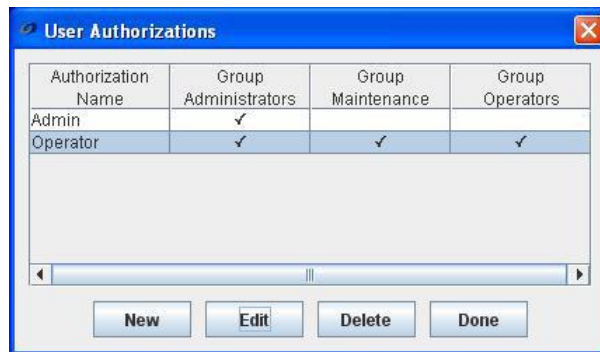

Figure 44. User Authorizations Screen
In the explanations used in this section, the group and user names are only examples (with the exception of the “Admin” user). Remember that Users and Groups are distinct. In Figure 44, for example, the user “Admin” is not synonymous with the group “Administrators”, though the names are similar. With the settings as shown in Figure 44, the user “Admin” and group “Administrators” do have the same privileges, since only “Group Administrators” is checked. If “Group Operators” was also checked, however, “Admin” would have all the privileges associated with the “Operators” group along with those associated with the “Administrators” group.
- To configure user permissions, log on as an authorized user with Admin rights and select **Edit > User Authorizations** to call up the screen shown in Figure 44.